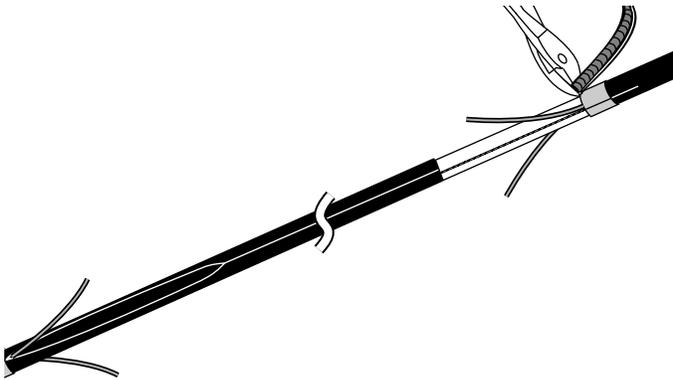

Figure 34
7.17 Remove the two split sections of sheath and armor. Side cutters may be helpful in removal (Figure 34).